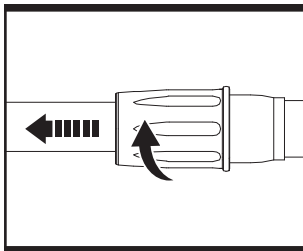

Fig. 10
- 2). After adjusting required length, tighten the locking sleeve. (See Fig.10)